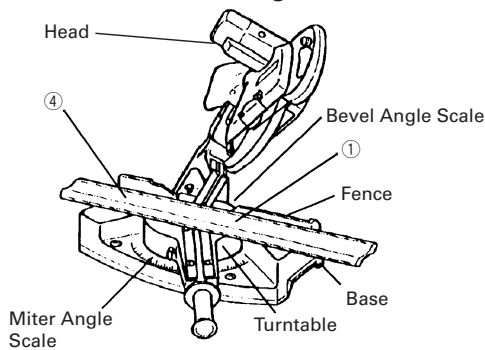
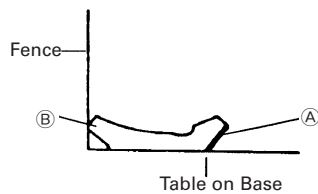

Fig. 42
Fig. 44
(3) Setting to cut crown moldings at positions ① and ④ in Fig. 36 (see Fig. 42; tilt the head to the right):
- ① Turn the turntable to the right and set the Miter Angle as follows:
- ② Tilt the head to the right and set the Bevel Angle as follows:
- ③ Position the crown molding so that the upper surface (B in Fig. 35) contacts the fence as indicated Fig. 44.